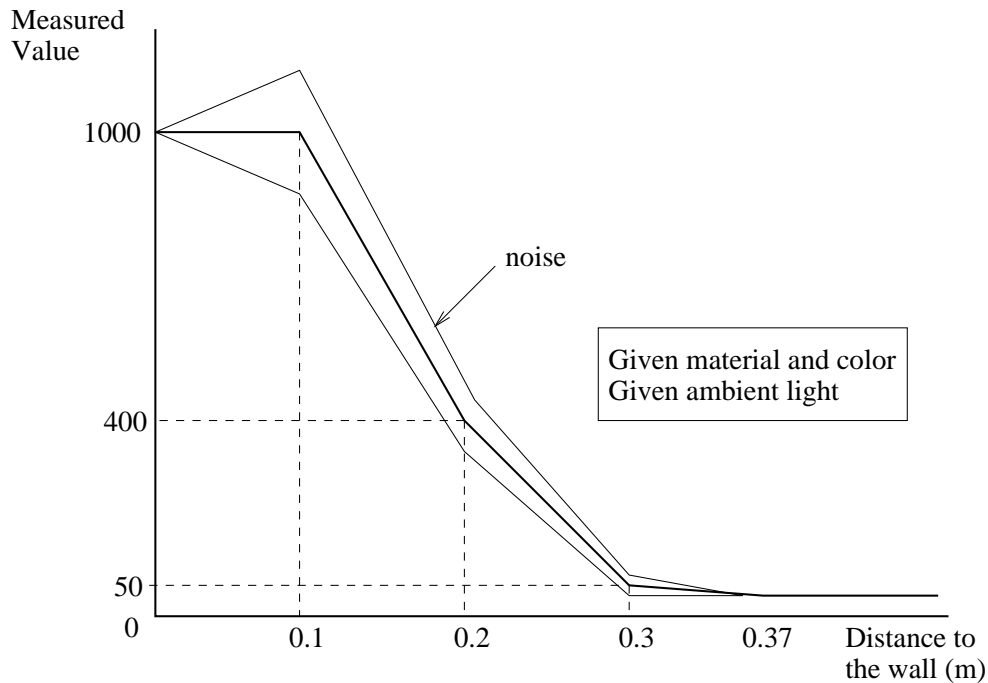

Figure 2.4: Measurements of the light reflected by an obstacle
- `lookupTable`: This field is best explained through an example: Let us consider an infra-red sensor. The white noise on the return value is 10 percent. For an obstacle made of a given material and color and for a given ambient light, the response of the sensor is as shown in figure 2.4